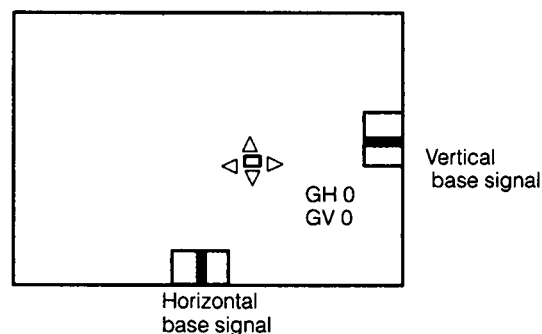

Fig. 57
4. Adjust the Cursor Left Right " ◀▶ " button so that the horizontal base signal comes to the screen frame centre, and press the Cursor Center " ■ " button **Fig. 57**.